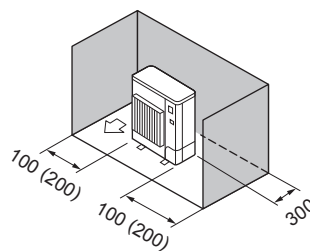

Fig. 1-7
- ③ Obstacles at rear and sides only (Fig. 1-7)